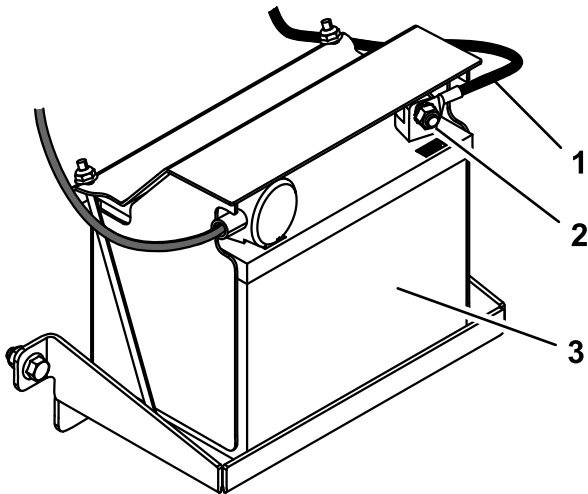

Figure 6
2. Connect the negative battery cable to the negative (-) battery post using the bolt and nut attached to the cable (Figure 6).